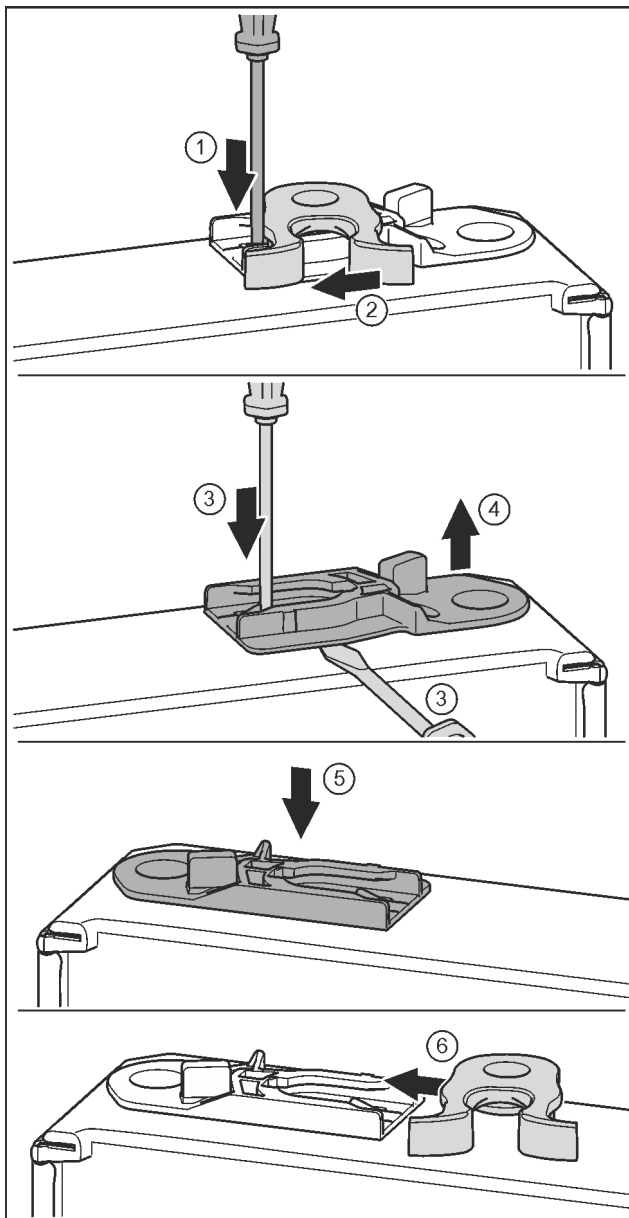

Fig. 20
- Push the tab downwards with a slotted screwdriver. *Fig. 20 (1)*
- Pull the door latch out of the guide. *Fig. 20 (2)*
- Pull out the guide bush: Press the tab with a slotted screwdriver and, at the same time, insert the slotted screwdriver under the guide bush. *Fig. 20 (3, 4)*
- Slide the guide bush included in the scope of supply to the other side of the housing. *Fig. 20 (5)*
- Push the door latch into the guide. *Fig. 20 (6)*